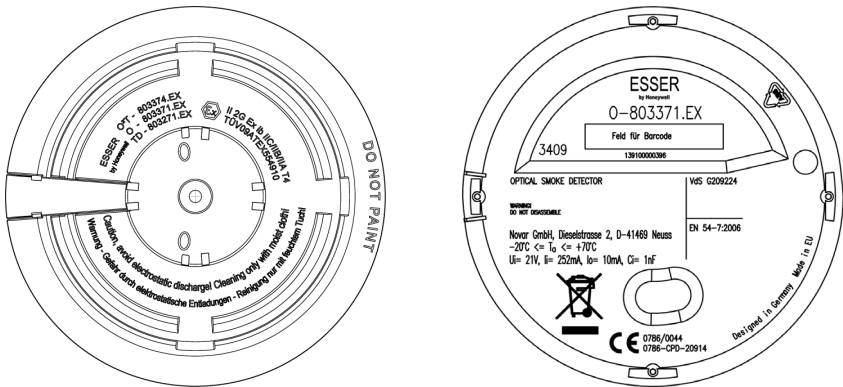

Fig. 1: Identification example → IQ8Quad Ex(i) 803371.EX
- Observe that two-detector coincidence type A mode is not supported for fire detectors series IQ8Quad Ex (i) with these components or this wiring (Fig. 1) when using the Ex barrier (Part No. 764744).